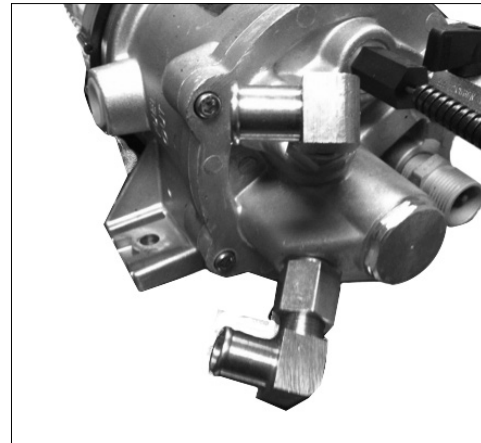

Figure 16: Install beaded hose barb fittings
Step 2: Using liquid Teflon thread sealant install 3/8" NPT 90 ° 5/8" beaded hose barb fittings into each port on the bottom plate of the Fuel Pro (Figure 16).